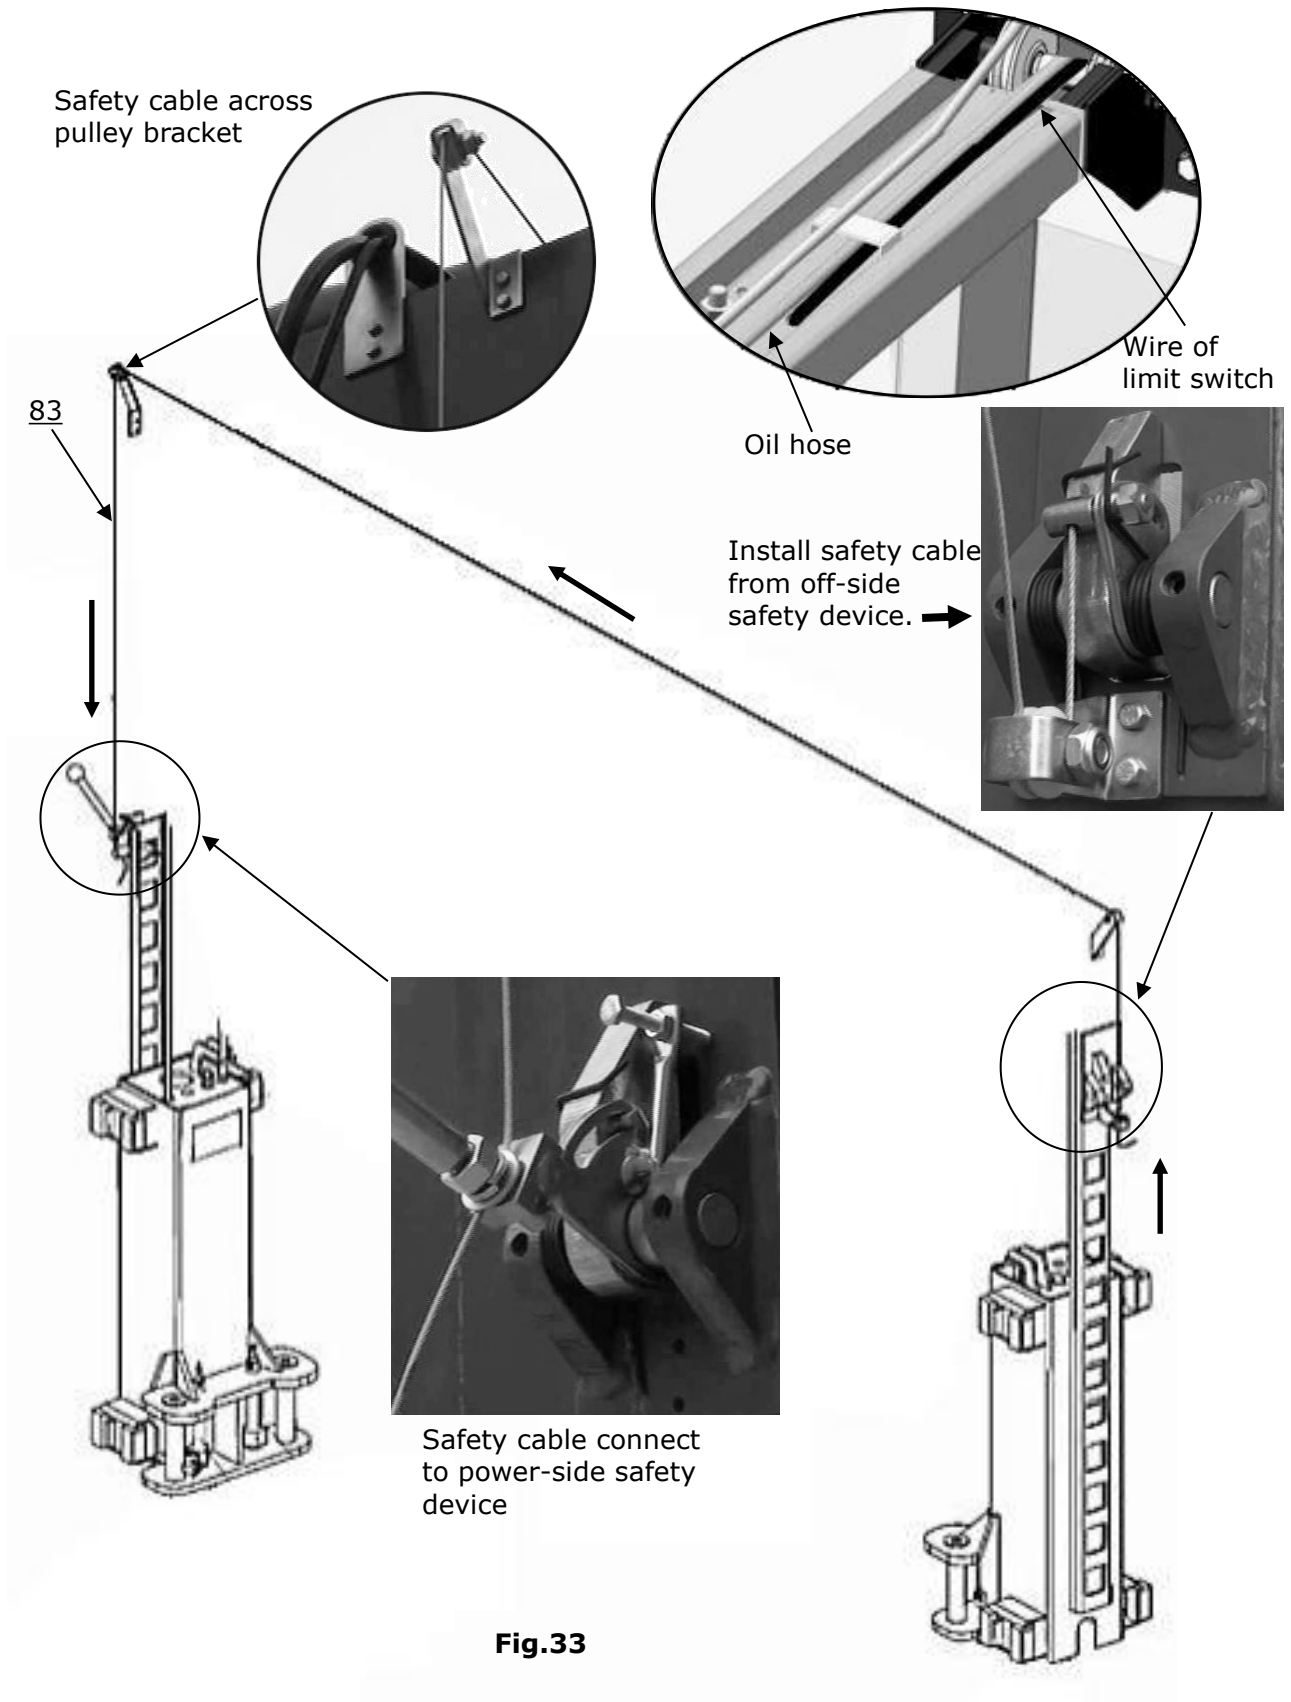

Fig.33
N. Install safety cable (See Fig. 33)